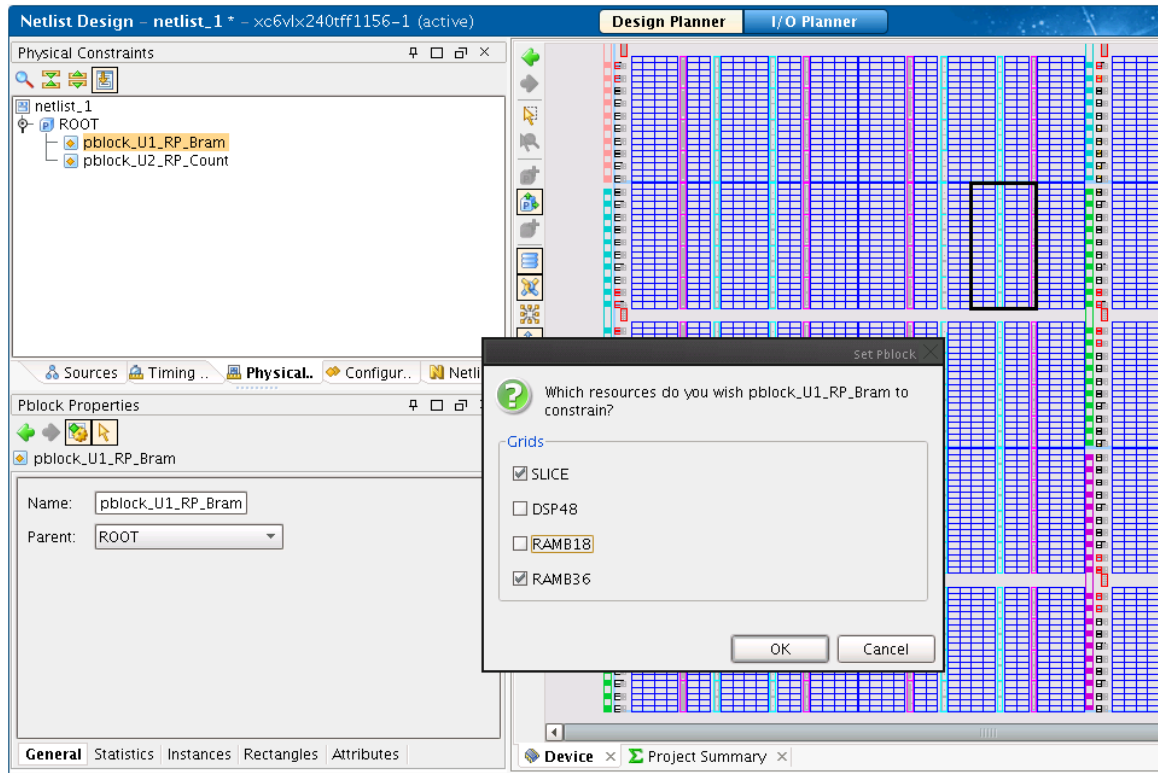

Figure 12: Setting Pblock Resources (pblock_U1_RP_Bram)
- 6-1-5. After drawing the rectangle, select both **SLICE** and **RAMB36** resources for the AG, as shown in Figure 12.